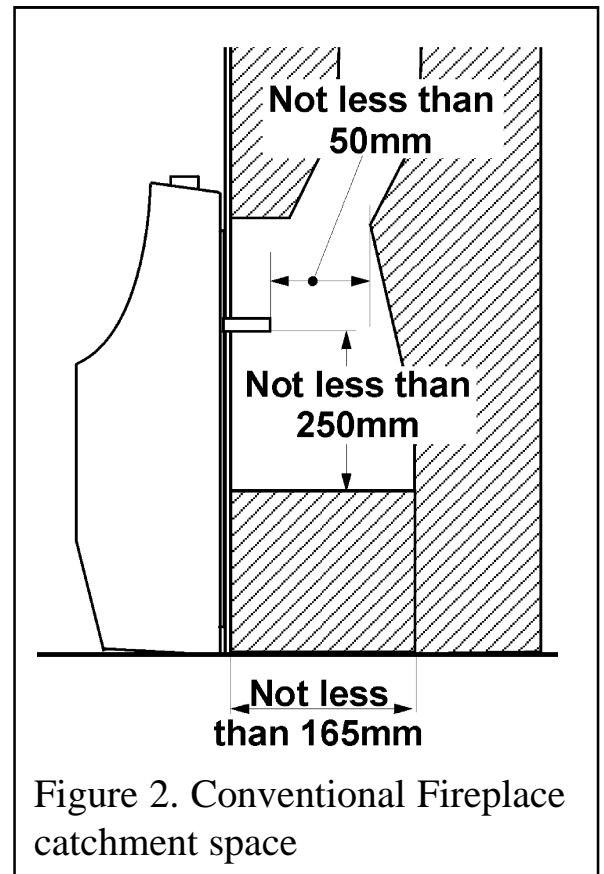

Figure 2. Conventional Fireplace catchment space
Any opening visible below the appliance may be closed in but the depth of the catchment space within the wall opening must be as shown in figure 2.
On conventional flues the catchment space below the flue spigot must extend at least 250mm downwards measured from the bottom of the flue spigot (See figure 2).
5.3.8. If the fire is fitted to a recessed fireplace, an extension flue spigot up to a maximum total length of 125mm may be used. The extension must be a tight fit over the flue spigot and be secured by two self tapping screws. Note the minimum clearance required as shown in figure 2.